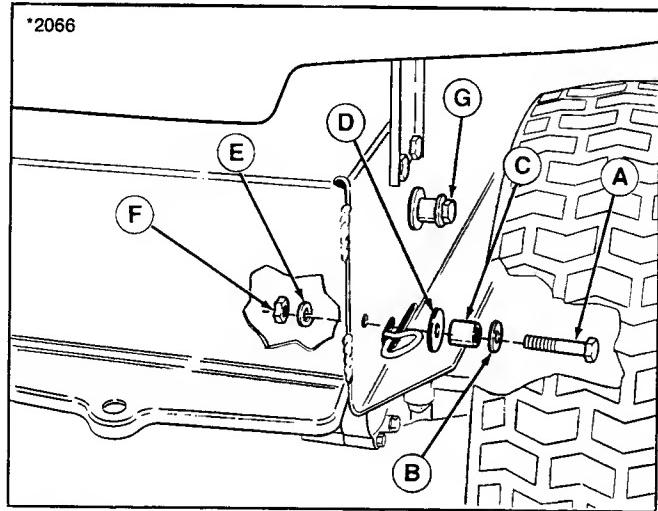

Figure 2.
4. Assemble spacers into lower frame holes as shown in figure 2. At rear location, install 3/8-16 x 1-3/4" capscrew (A, figure 2) through small washer (B, 7/8" O.D.), spacer (C), large washer (D, 1-1/4" O.D.) and frame. Secure with lockwasher (E) and nut (F).